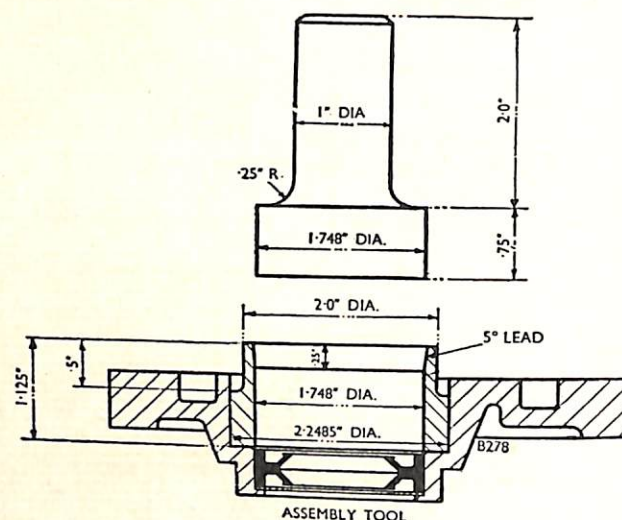

FIG. 78.
1. The seals should be fitted in the end covers. Fig. 78 illustrates the correct method of assembly.